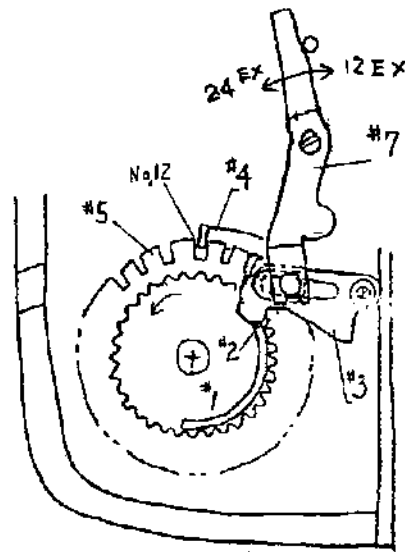

fig. 2
1. Side #2 of Calibration Gear #1 is in contact with and pushes up Free Wind Lever #3, Preventing the tip of Calibration Lever #4 from properly engaging the No.12 Cut-out of Calibration Plate #5 (See Fig. 2)